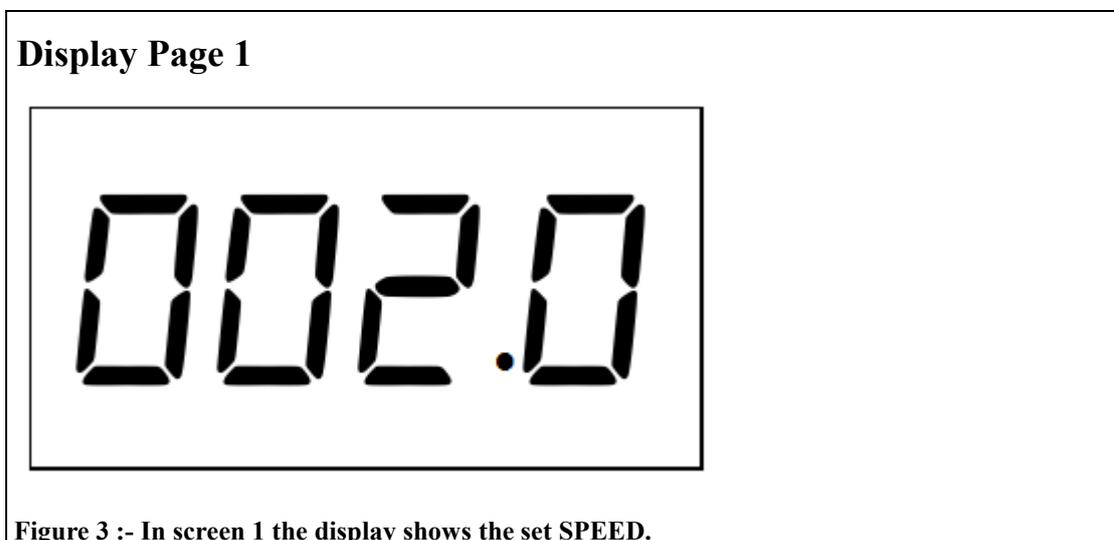

Figure 3 :- In screen 1 the display shows the set SPEED.
- 3) While setting the SPEED the speed LED will turned ON and the display will show the set SPEED in screen 1 as shown in the figure 3.